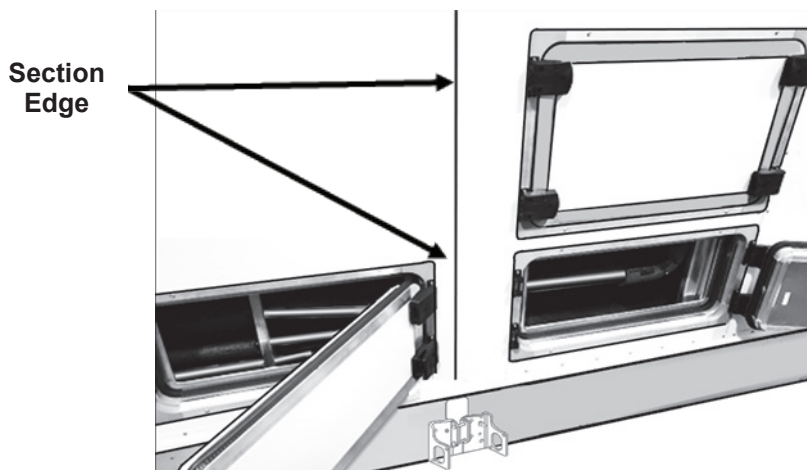

Figure 34 – Section Edge Location
- Alignment of the sectioned units is critical for the proper assembly of the SP system. To properly align the cabinet sections. Start with all sections on the same flat surface. 2x4's or similar may be used to facilitate this alignment (refer to Figure 34). Units with three or more sections will have letter labels at the adjoining sections. These labels are placed at the bottom of each section such as A-A, B-B, C-C, etc. to ensure proper mating of sections (refer to Figure 34).